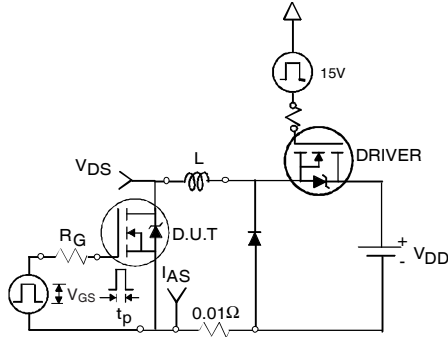

Fig 12a. Unclamped Inductive Test Circuit
③ Pulse width $\leq 1.0ms$; duty cycle $\leq 2\%$.
④ $C_{oss\text{ eff.}}$ is a fixed capacitance that gives the same charging time as C_{oss} while V_{DS} is rising from 0 to 80% V_{DSS} .
⑤ Limited by T_{Jmax} , see Fig.12a, 12b, 15, 16 for typical repetitive avalanche performance.
⑥ This value determined from sample failure population. 100% tested to this value in production.
3. Equation below based on circuit and waveforms shown in Figures 12a, 12b.